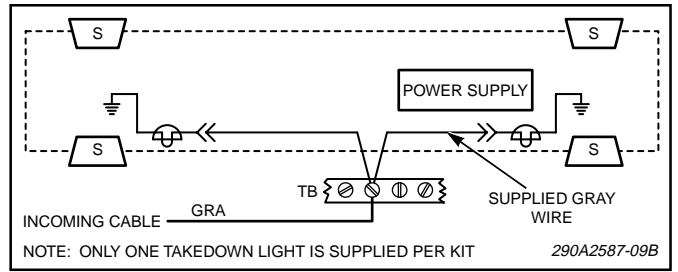

Figure 2.
4. See figure 2. Connect the takedown reflector assembly's wire to the supplied 25" wht/org wire. Route the wire to the lightbar's terminal block and connect to the incoming cable's gray wire terminal position. If the incoming cable's gray wire is used for another option, connect to an unused incoming cable terminal position.